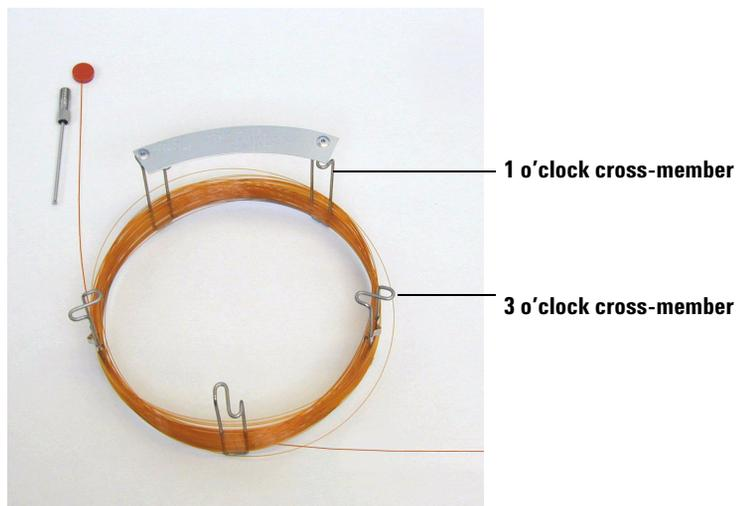

Figure 8 Column with 2 uncoiled loops.
- 2 Remove the septum cap from the column OUTLET side and uncoil 2 column loops. See Figure 8.